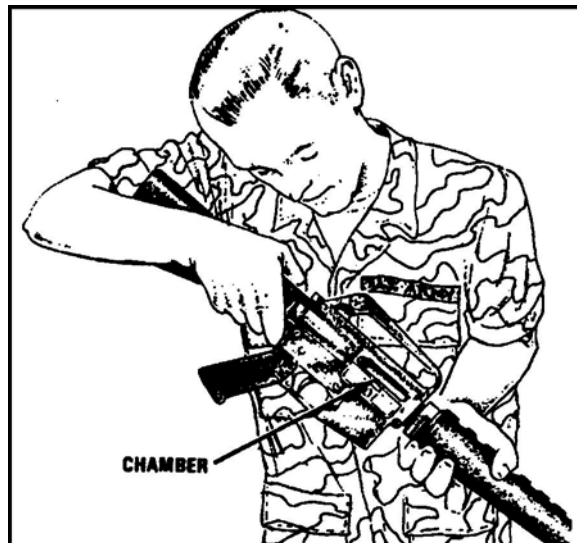

Figure 3. Inspecting the chamber.
- (1) Pull the charging handle rearward.
- (2) Press the bottom of the bolt catch.
- (3) Allow the bolt to move forward until it engages the bolt catch.
- (4) Return the charging handle to the forward position.
- (5) Ensure the selector is on SAFE.
- e. Inspect the receiver and chamber to ensure they do not contain ammunition (Figure 3).